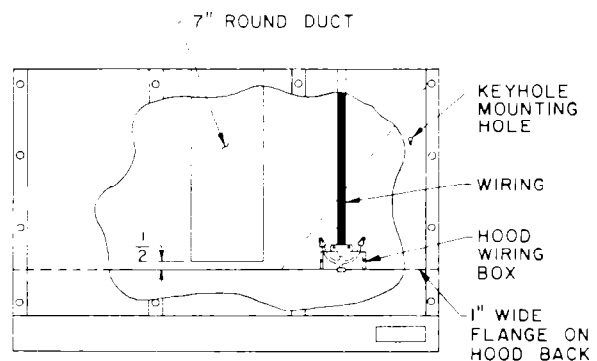

FIGURE 3
5. Make electrical connection at wiring box on back of canopy assembly according to Figures 3 & 6.
6. Make electrical connection at wiring at box on back of canopy according to Figures 3 & 6.